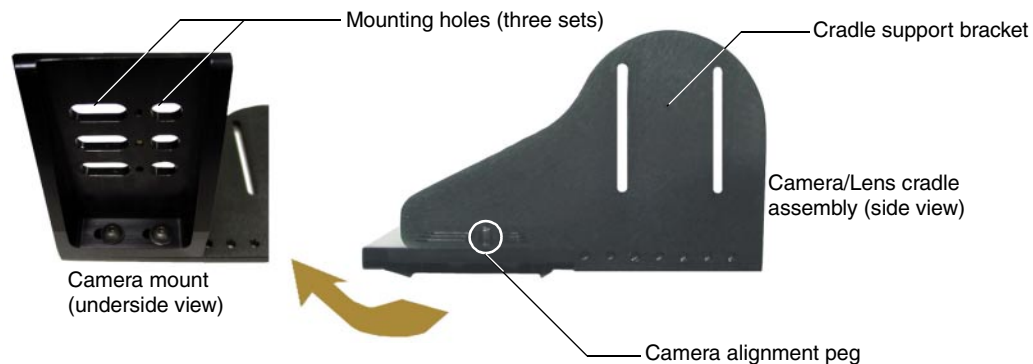

FIG. 7 Camera/Lens cradle assembly (camera mount and lens mount)
2. Separate the camera mount and cradle support bracket by removing the two 1/2" screws on the underside of the assembly (FIG. 7) using a 3/32 Allen wrench.
4. Secure the camera/lens to the cradle (at the camera alignment peg) with the screw and fastener supplied with the camera/lens (see FIG. 7).